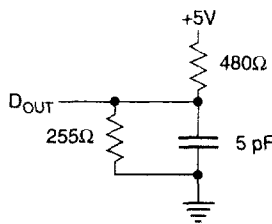

Figure 2. Output Load Equivalent
6. Transition is measured  $\pm 500$  mV from steady-state voltage with load of Figure 2. This parameter is sampled rather than 100% tested. At any given voltage and temperature, tCHZ max is less than tdc1 min for a given device and from device to device.